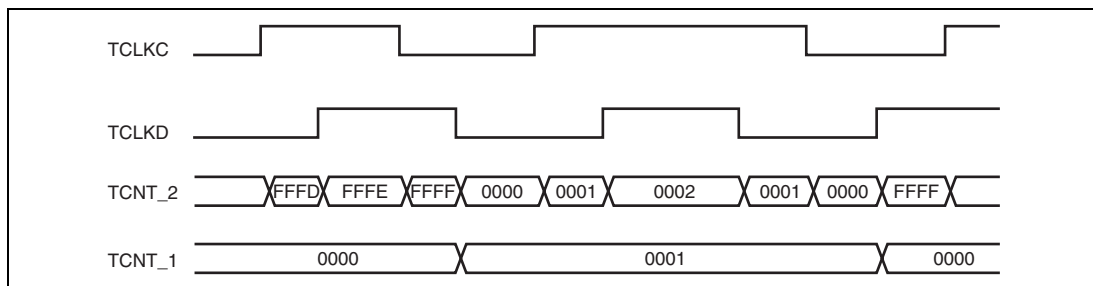

**Figure 11.19 Example of Cascaded Operation**
**Examples of Cascaded Operation:** Figure 11.19 illustrates the operation when TCNT\_2 overflow/underflow counting has been set for TCNT\_1 and phase counting mode has been designated for channel 2.